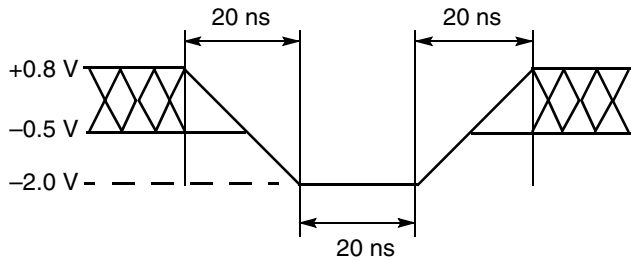
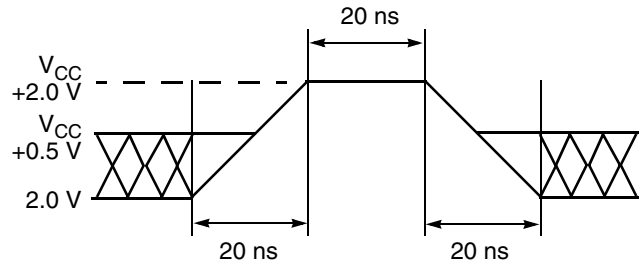

Figure 7. Maximum Negative Overshoot Waveform
Figure 8. Maximum Positive Overshoot Waveform
1. Minimum DC voltage on input or I/O pins is -0.5 V. During voltage transitions, input or I/O pins may overshoot V_{SS} to -2.0 V for periods of up to 20 ns. See Figure 7. Maximum DC voltage on input or I/O pins is $V_{CC} + 0.5$ V. During voltage transitions, input or I/O pins may overshoot to $V_{CC} + 2.0$ V for periods up to 20 ns. See Figure 8.
2. Minimum DC input voltage on pins A9, OE#, and RESET# is -0.5 V. During voltage transitions, A9, OE#, and RESET# may overshoot V_{SS} to -2.0 V for periods of up to 20 ns. See Figure 7. Maximum DC input voltage on pin A9 is +12.5 V which may overshoot to 14.0 V for periods up to 20 ns.